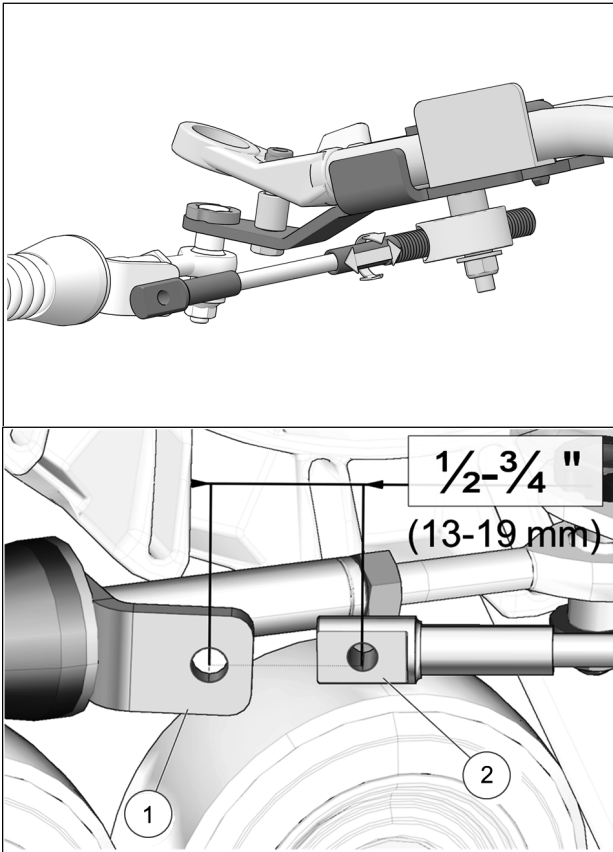

Fig. 24
15. Turn the vehicle's steering wheel to its maximum point of travel on the left. While maintaining pressure on the steering wheel, turn threaded rod to adjust length of cable so that the cable end hole (1) is located 13 to 19 mm [$\frac{1}{2}$ to $\frac{3}{4}$ in.] short of the mounting hole on the support plate (2). See Fig. 24